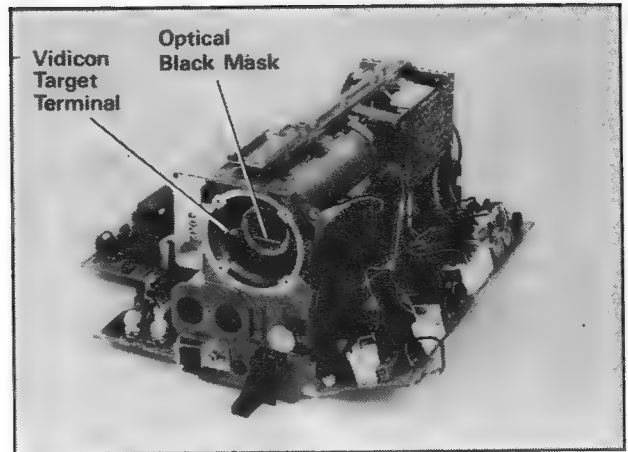
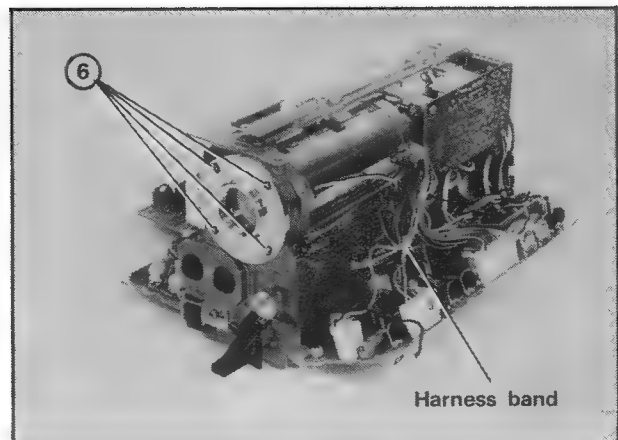

Fig 3.15 Vidicon Position Adjustment
Fig 3.17 Removing the Lens Mount
1. When adjusting the vidicon, ensure that the optical black mask is in the lower horizontal position as shown in Figure 3.15
- (5) Remove the four screws (6) from the C-mount plate that retains the lens (Fig 3.17)
- (6) Cut the restraining harness band in order that the connectors **E** and **F** can be withdrawn from PCB CA 4501A
- (7) Remove the target output wire, soldered to the vidicon target terminal as shown in Figure 3.15
- (8) Remove the DY by withdrawing it backwards
- (9) Remove the vidicon through the front of the DY.
- (3) Remember to solder the wire to the target terminal, as shown in Figure 3.15.